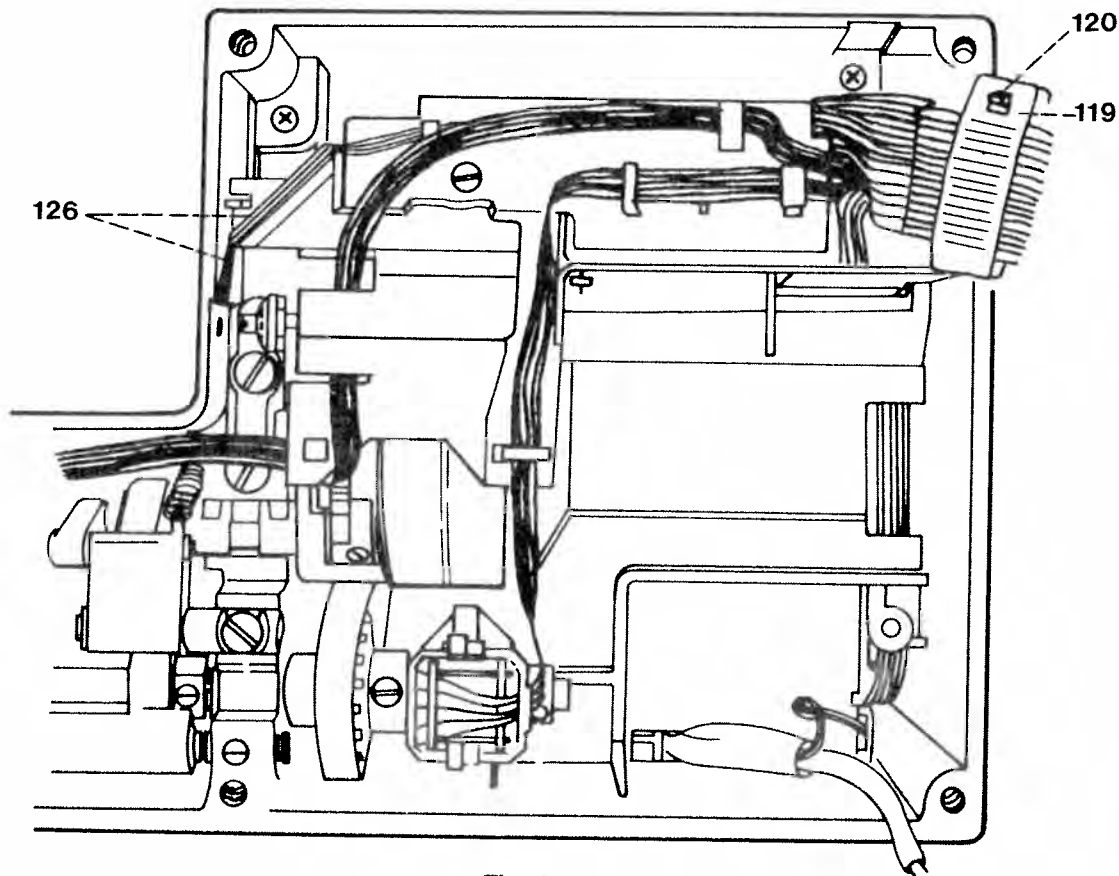

Fig. 29
- Open both cable clips 119 at catch 120 and remove the four-wire cable from the cable guides (Figs. 29 and 29a).
- Place the four-wire cable 126 in the cable guides (Fig. 29).
- Install all flat cables according to Fig. 29 and fit both cable clips.